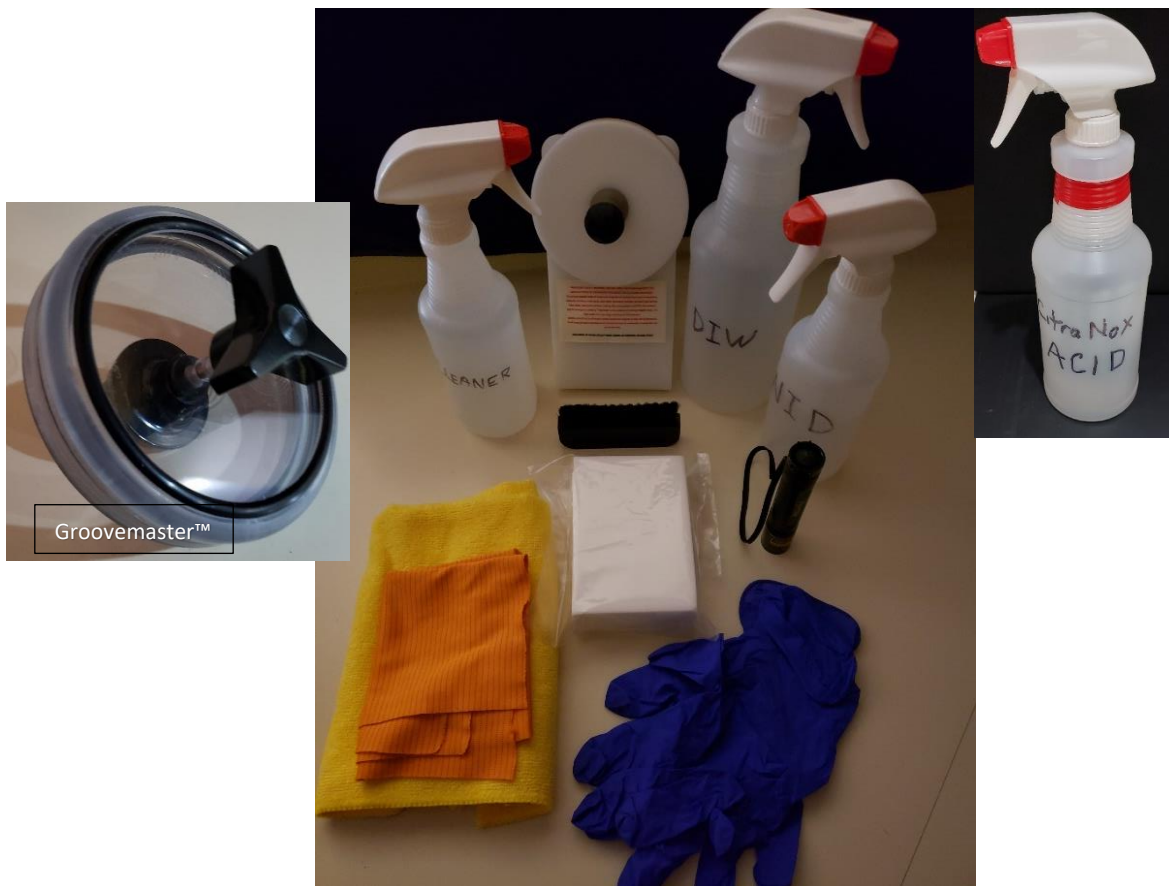

Figure 12 - Step 1: Assemble Cleaning Process Solutions and Materials
V.Step.1 Assemble all equipment, material and solutions in a location that has access to a relatively large sink such as a residential kitchen. **Figure 12** shows the **Groovemaster™** and VinylStack™ record label protectors (*items not shown optional Nalgene wash bottle and dish rack*). If required, prepare cleaning solutions as specified **CHAPTER III. CLEANING SOLUTION PREPARATION:** Clean (wipe down) the local area to minimize cross contamination and obtain best cleaning results.